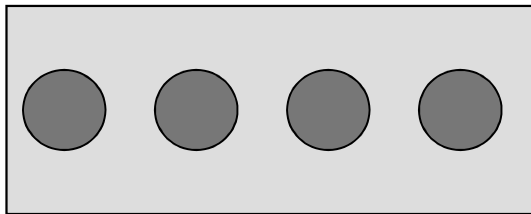
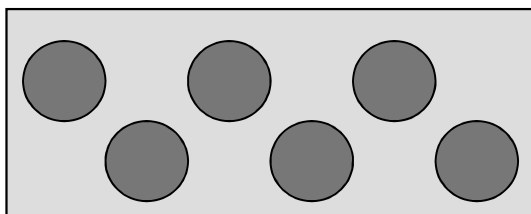

Figure 6a
Figure 6b
6.2 Prepare TDU enclosure by selecting and marking tube cable entry point locations. To best optimize TDU capacity, it is recommended to stagger tube cable entry locations if possible. See Fig. 6a and Fig. 6b.